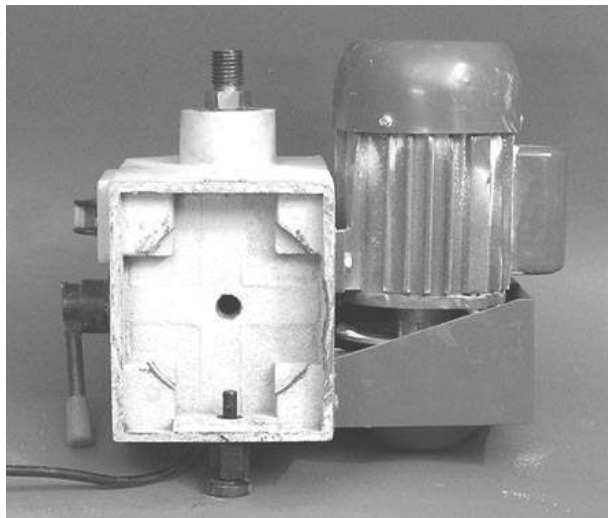

Figure 5 - Lathe Head, Bottom View
- Figure 5 - Lathe Head, Bottom View . . . . . 4